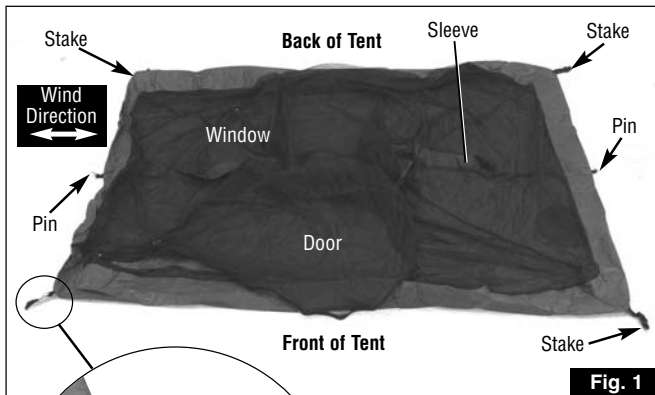

Fig. 1
2. Stretch out corners and sides of tent. Secure four corners with stakes driven in at an angle through the loops, at the end of the web straps, to better anchor the tent (Fig. 1 & 2).
4. Insert main pole through sleeve in top of tent. (Fig. 1)